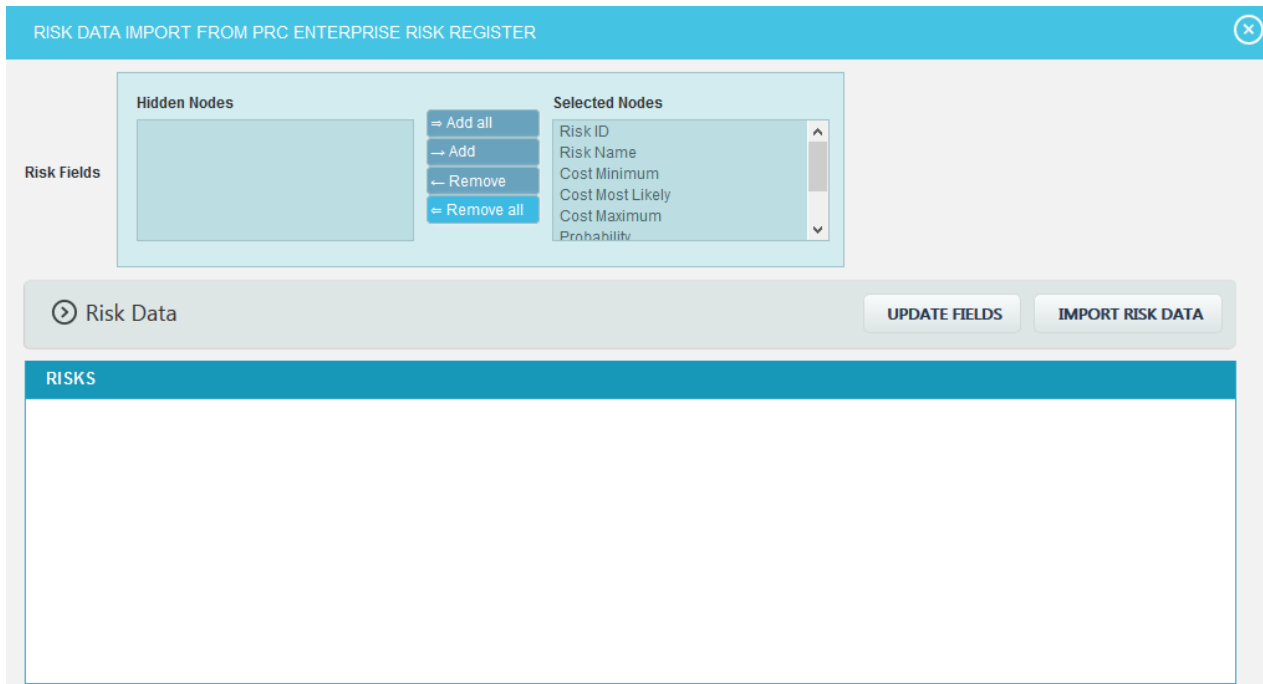
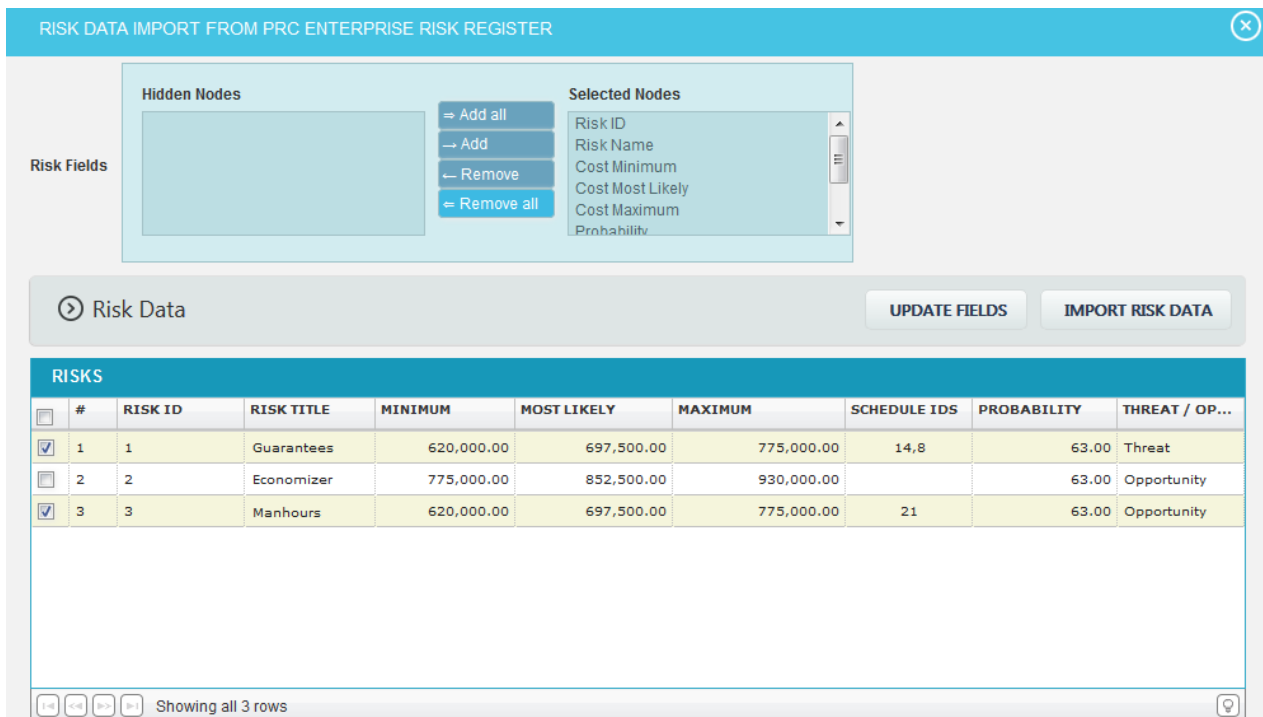

Figure 2.35
Figure 2.36
3. A pop up appears (Figure 2.35) where the importing risks' data fields are selected and click **UPDATE FIELDS** to view those selected risk data. Click **IMPORT RISK DATA** button to save the imported risks from PRC Risk Register. (Figure 2.36)